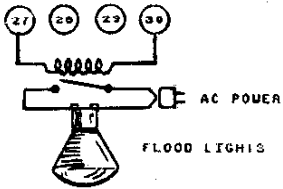

Fig. 4-6c. Relay for switching house lights.
- (b) Alarm Output 2 (Terminals 27 and 30) might be used for an untimed Fire alarm "Klaxon" horn or to activate a heavy-duty relay for switching on house lights (Fig. 4-6c).